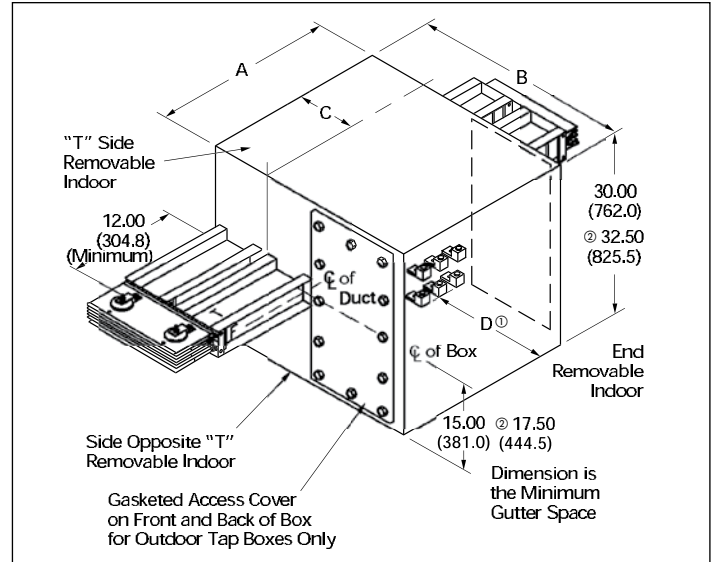

Figure 28. Center cable tap box
Center cable tap box (Figure 28)
① For compression lugs, factory provides provisions only.
② All dimensions shown in **Figure 28** remain constant regardless of system wiring configuration.
③ Denotes quantity of terminals per ground bus.
④ Denotes quantity of terminals per phase and 100% neutral bus.
⑤ Denotes quantity of terminals per 200% neutral bus option.